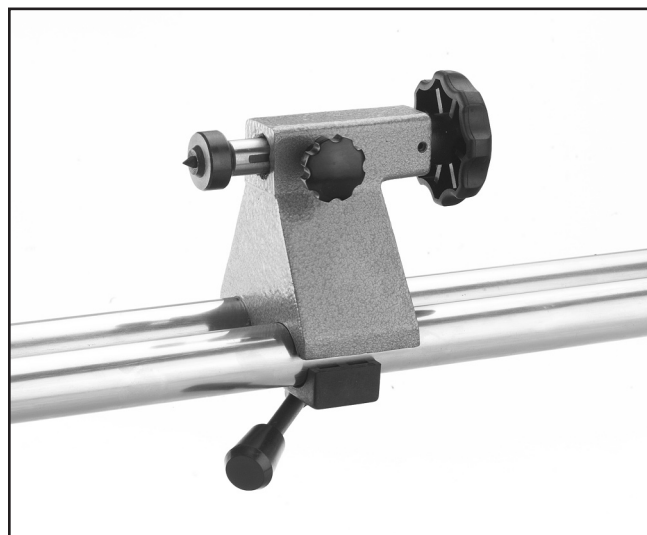

Figure 9. Tailstock mounted to guide rails.
4. The tailstock rests on the guide rails and is held in place by the tailstock bracket using a double end screw (M12-1.75 x 65), washer and handle. There are two ways to adjust the tailstock. The handle located under the lathe bed can be loosened, allowing the tailstock to slide up and down the length of the guide rails; or the hand wheel can be loosened, allowing the threaded spindle to move back and forth in the tailstock for fine adjustment. See **Figure 9**.